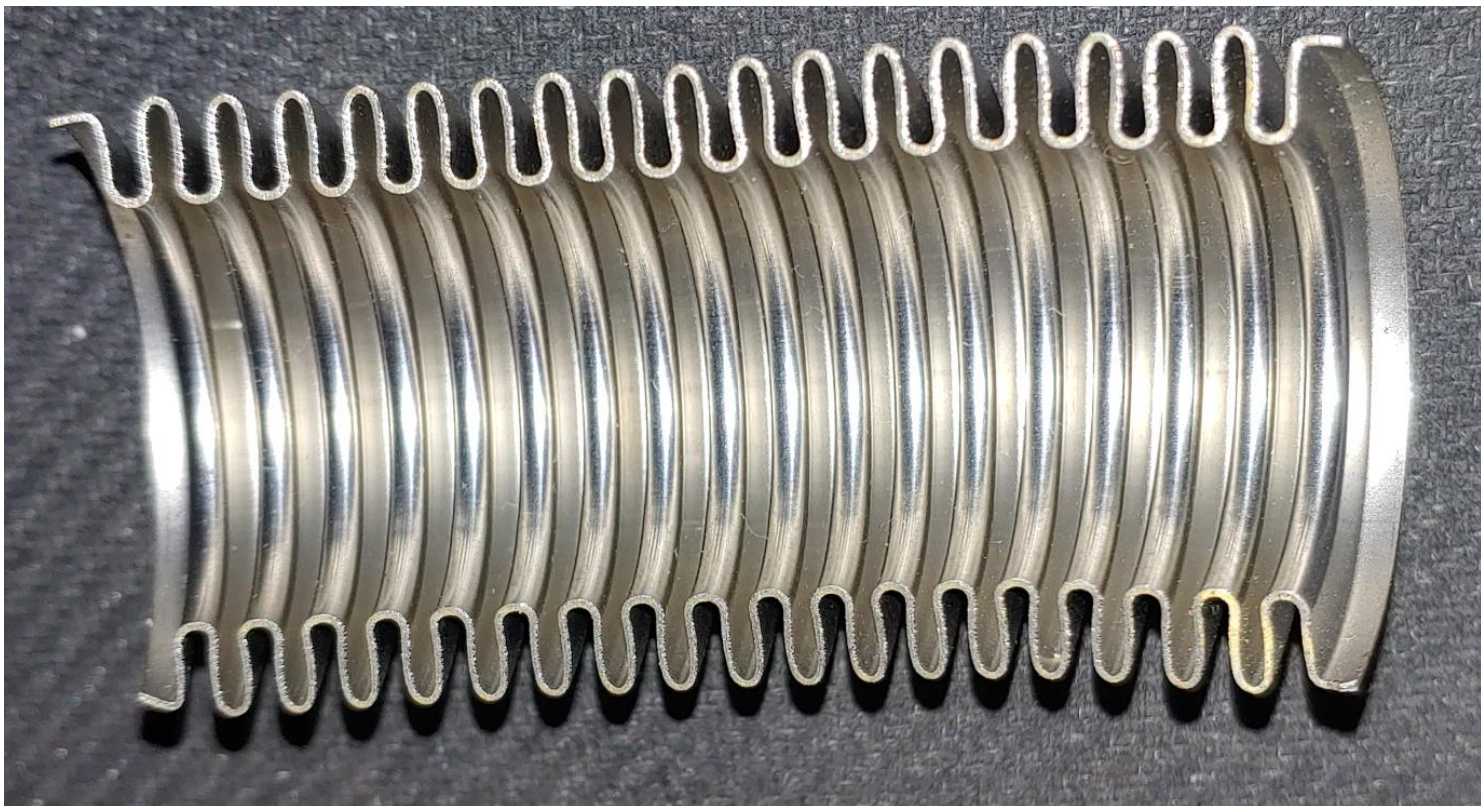

Figure 5
- Mechanically crimped bellow does not have perfect Ω shape see figure 5 below
Figure 5 below shows mechanically crimped bellow